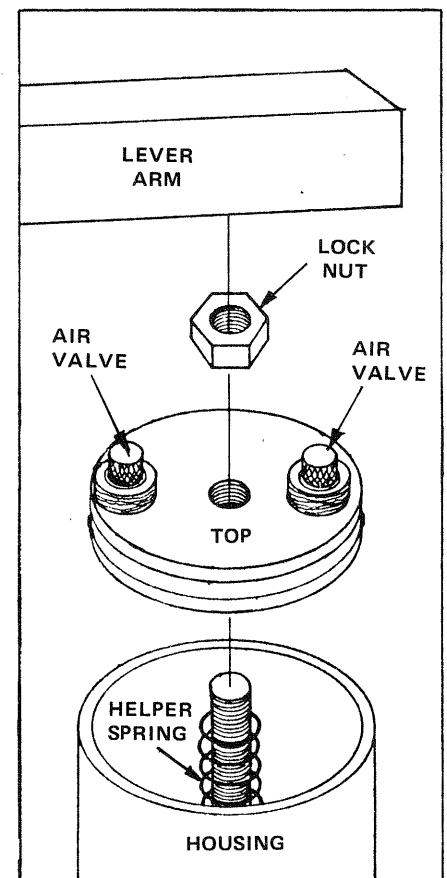

FIGURE 9-34 Dashpot disassembly.
- S. Move the Vorsetzer away from the piano (see the CAUTION below). Disassemble the Dashpot (see FIGURE 9-34) and remove the Helper Spring. Reassemble the Dashpot (without the Spring) and repeat STEP 9-60 to adjust the length of the Actuator. Proceed to Point T.